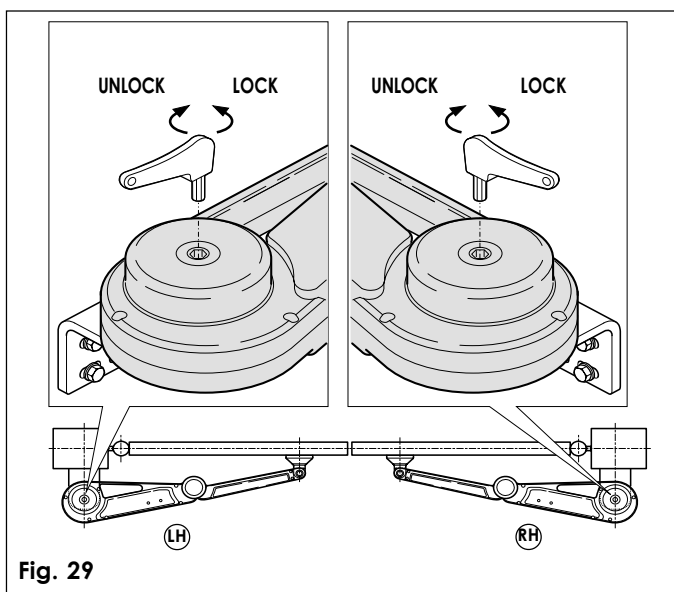

Fig. 29
- Remove the protective cap from the release screw, fit the supplied Allen wrench and turn clockwise until it stops (fig.29).
- Fit the supplied Allen wrench and turn anti-clockwise until it stops (fig.29). Put back the protective cap.